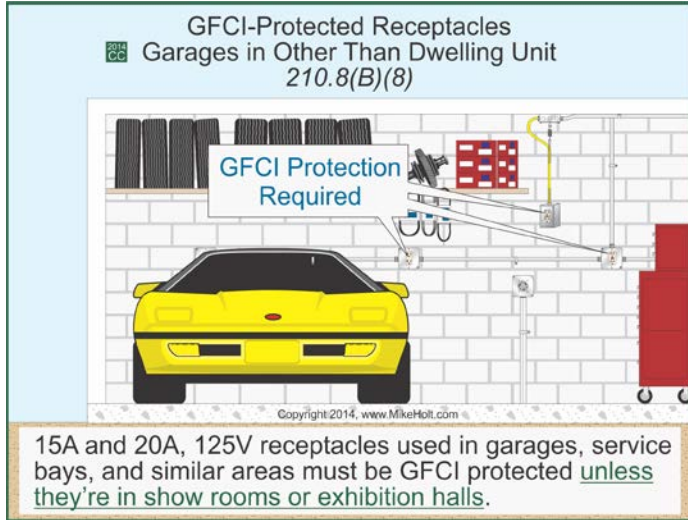

Figure 210-42
(6) Indoor Wet Locations. All 15A and 20A, 125V receptacles installed indoors in wet locations must be GFCI protected.
(7) Locker Rooms. All 15A and 20A, 125V receptacles installed in locker rooms with associated showering facilities must be GFCI protected.
(8) Garages. All 15A and 20A, 125V receptacles installed in garages, service bays, and similar areas must be GFCI protected, unless they're in show rooms or exhibition halls. Figure 210-42